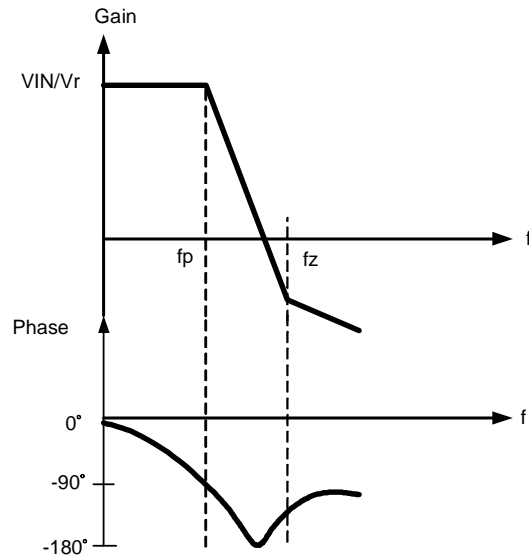

Figure 7. The Bode plot of Buck power stage
The transfer function of Equation (20) is a second order system and Bode plot is shown in Figure 7.
In Figure 7, the resonance of the output LC filter produces a double pole and  $-40\text{dB/decade}$  slop. The resonance frequency is expressed as follows :